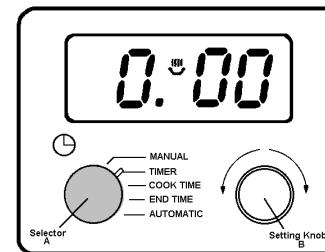

Fig.3
Turn the selector (A) to 'Timer'. 0.00 and the cookpot () symbol will glow. Fig. 3.